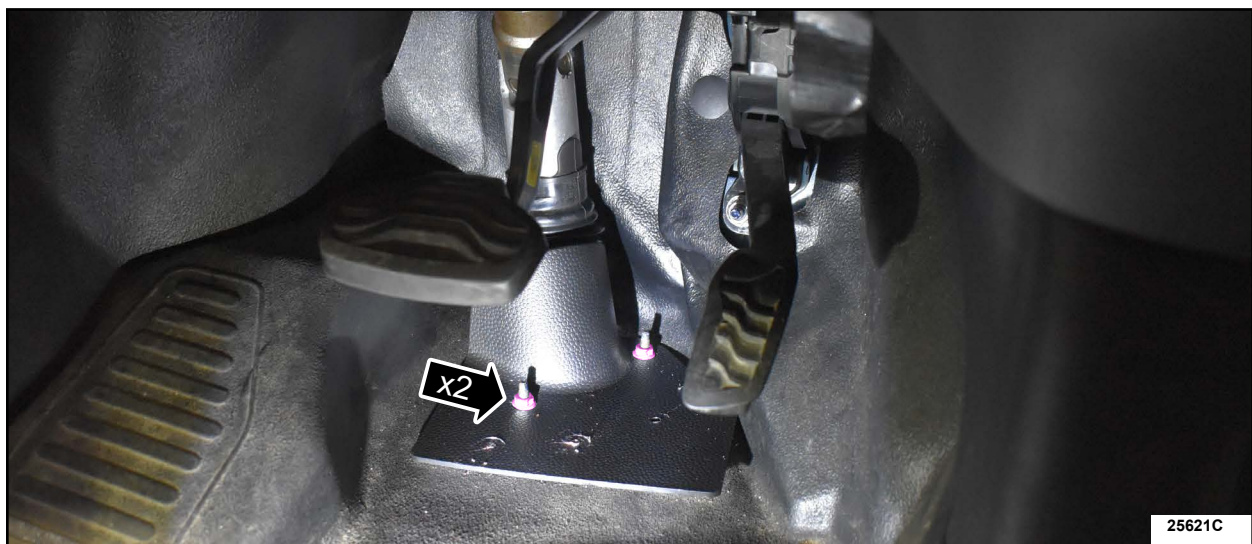

FIGURE 19
4. Remove the two (2) remaining retainers holding down the steering column shaft protective shield. See Figure 19.